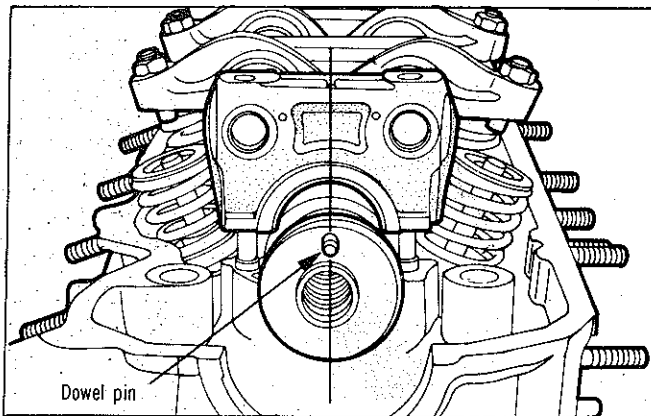

Fig. 30—Positioning camshaft for installation
(9) Position the camshaft with the sprocket locating dowel in the uppermost position (Fig. 30).
(10) Install the cap dowel bushings and position the rocker shaft assembly onto the cylinder head.
(11) Install the rocker arm cover attaching brackets to the front and No. 4 camshaft caps.
(12) Install cap retaining nuts and tighten in two stages to the specified torque. Tightening order — No. 3, 2, 4, front and rear.
(13) Install spark plugs.